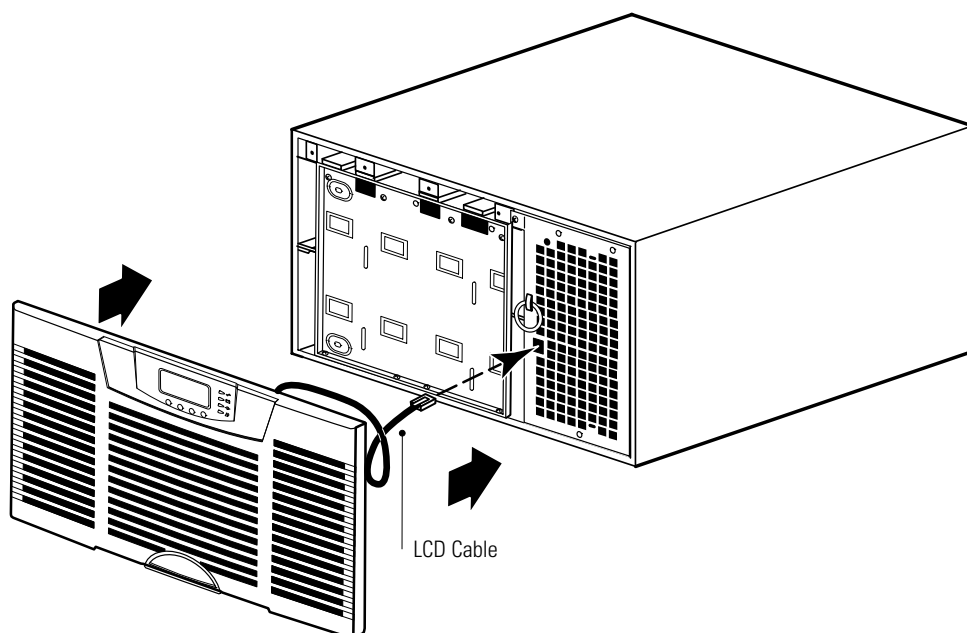

Figure 85. Replacing the UPS Front Cover
7. Replace the UPS front cover (see Figure 85):